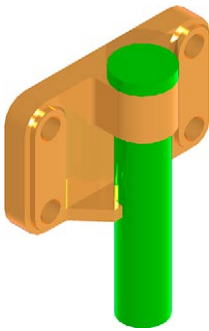

Fig. 18.14 First example – 3D models
### First example (Fig. 18.14)
- Isometric view.** Render. Adjust lighting and materials as necessary (Fig. 18.14).